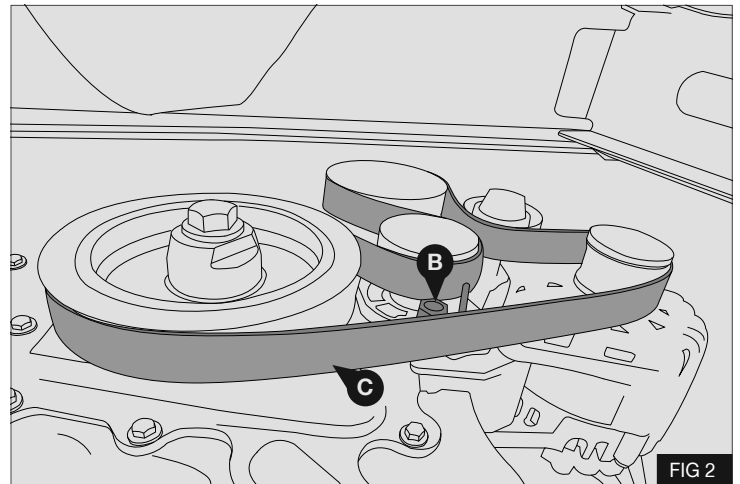

FIG 2
2. Release tension on automatic belt tensioner (B) and lock using a $\varnothing 4$ mm pin. - Fig 2
3. Remove and discard original drive belt (C) - Fig 2